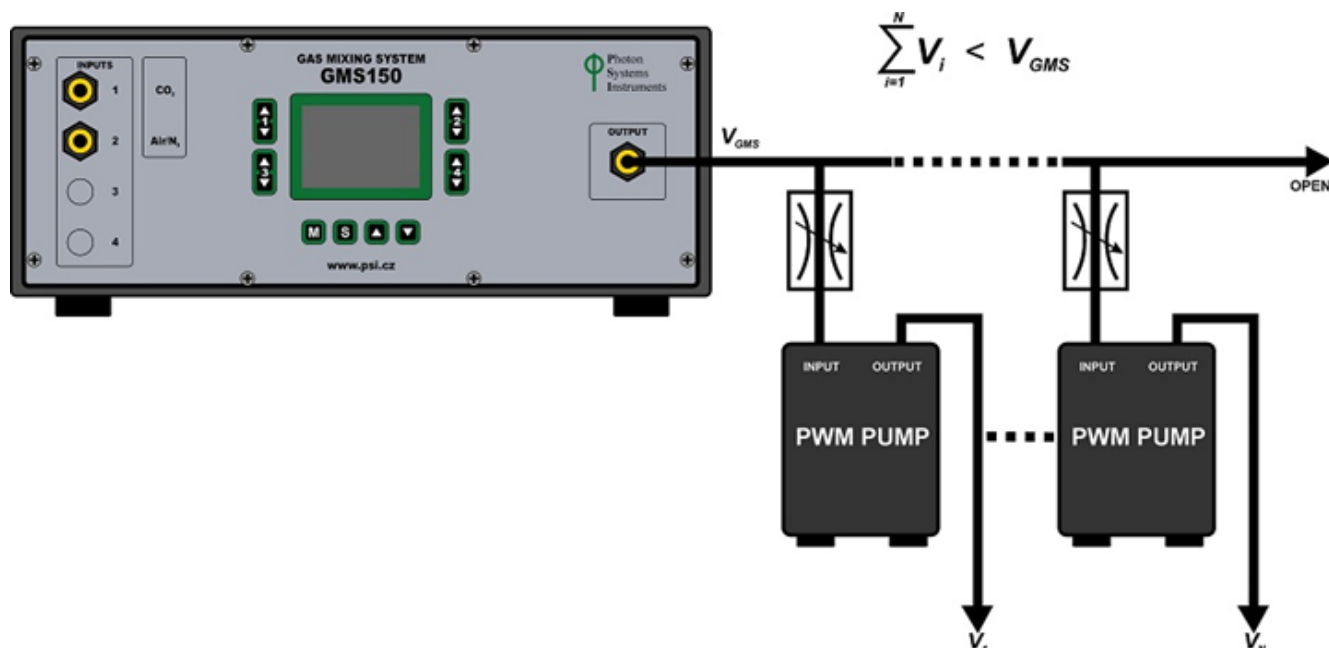

Fig. 34 Scheme for connecting more PBR FMT 150 units to one GM System.
A) Mixed gas of given composition (1) is pumped from GM System via (2) to the PBR FMT 150 via air interruption valve (3). B) Vessel lid assembly. (4) Air distribution, (7) Medium outlet, (6) Sampling tube. C) Scheme for the connection of GM with PBR FMT 150.
- When more than one PBR FMT 150 units are connected to the same GM system the set-up of such connection scheme is shown in Fig. 34. For connecting more PBR FMT 150 units to one GMS 150 system the customer needs to purchase one PWM pump for each PBR FMT 150 unit.
Output flow tubing from the GMS 150 should be connected with the individual PWM pumps such that the final sum of the GMS 150 flow rate (schematically described in Fig. 34 as V_{GMS}) is bigger than the sum of each PWM pump flow rate.